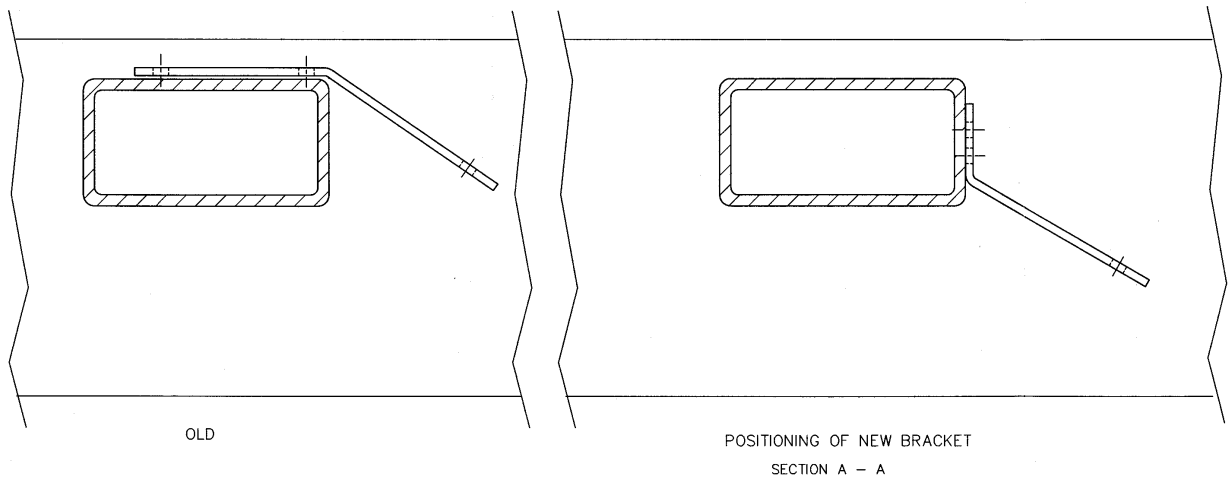

Figure 2 – Positioning of Replacement Bracket
- c. Remove the existing bracket and install the replacement bracket, as shown in Figures 2 and 3.